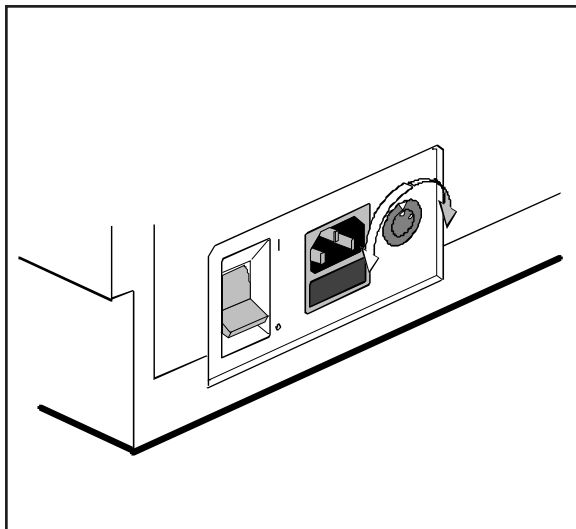

Figure 2-7. Setting the Voltage Select Switch
2. Using a slotted screwdriver, set the voltage select switch to the correct setting, as shown in figure 2-7.